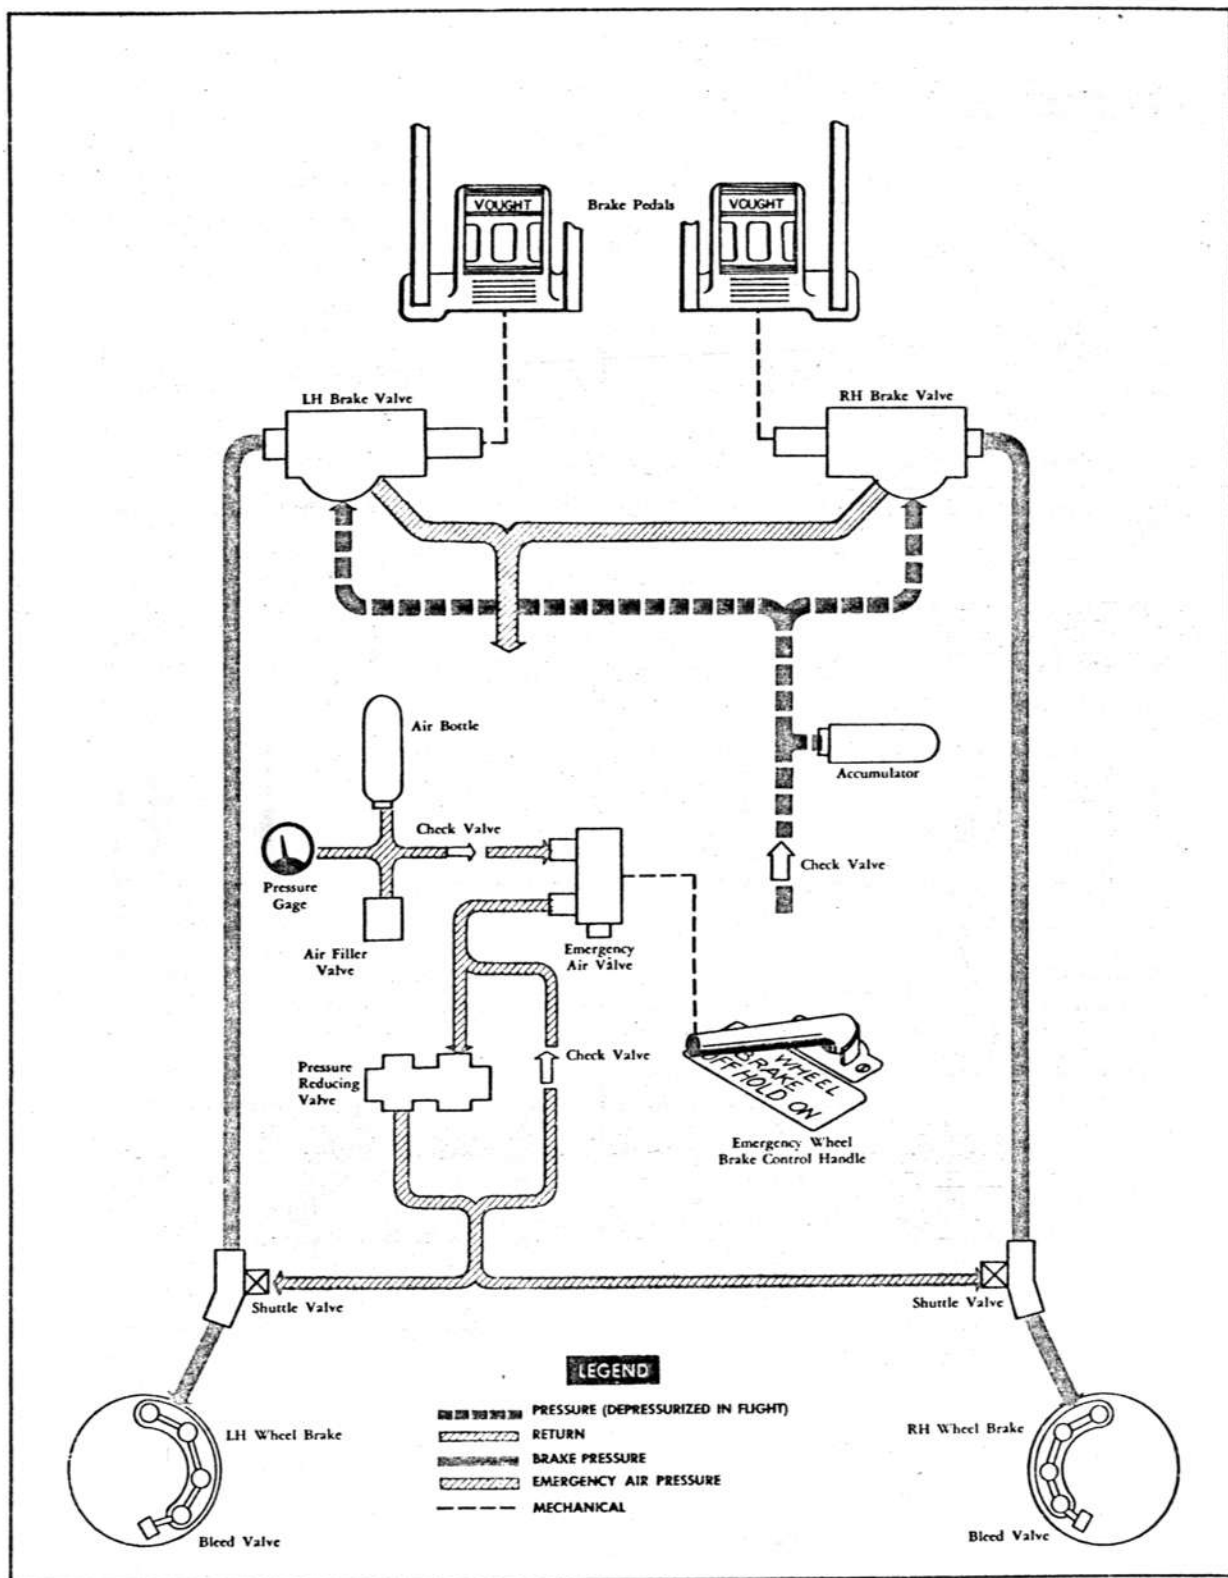

Figure 1-29. Wheel Brake System Schematic
**GENERAL.** (See figure 1-29.) Wheel brakes are located on the inboard side of each main gear wheel. Each brake is independently controlled by its corresponding rudder pedal. Pressing the toe plate of the rudder pedals mechanically actuates hydraulic brake valves. Brake pressure is delivered from the valves to the brakes in proportion to the exerted pedal pressure. An accumulator is located in the utility hydraulic system pressure line between the brake valves and a check valve. If hydraulic pressure drops momentarily, the accumulator energy provides sufficient pressure to operate the brakes.